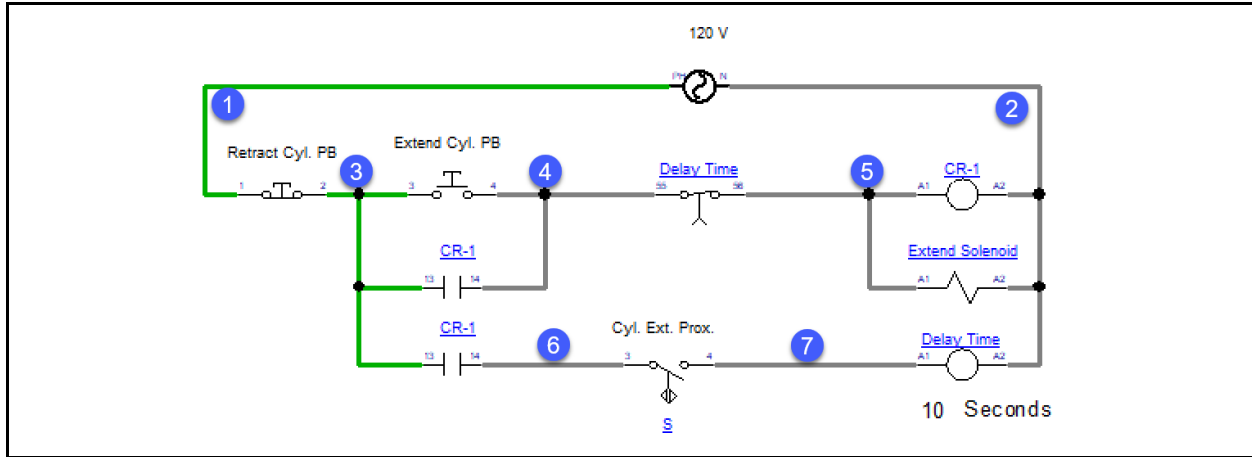

Figure 8. Control circuit for circuit 2.
6. In Figure 8, if the Retract Cyl. PB is actuated and release, what would be the measured voltage?
7. In Figure 8, if the Extend Cyl. PB is actuated and release, what would be the measured voltage?
8. What could be wrong in the circuit in Figure 8, if the Extend Cyl. PB is actuated and released, then CR-1 comes on but not the Extend Solenoid?